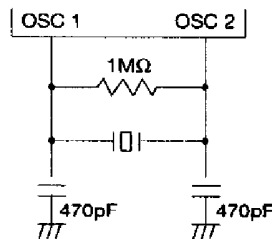

Figure 3-1 Ceramic Oscillator (CSB256D) Connection Circuit
- Figure 3-1 shows an external circuit that used the ceramic oscillator CSB256D made by Murata MFG.